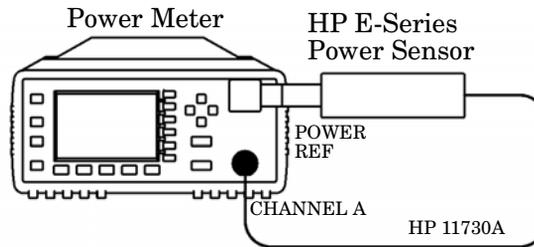

Figure 2-4: Sensor Functional Test Setup
1. Connect the equipment as shown in Figure 2-4.
- Disconnect the 30 dB attenuator and reconnect as shown in Figure 2-4.